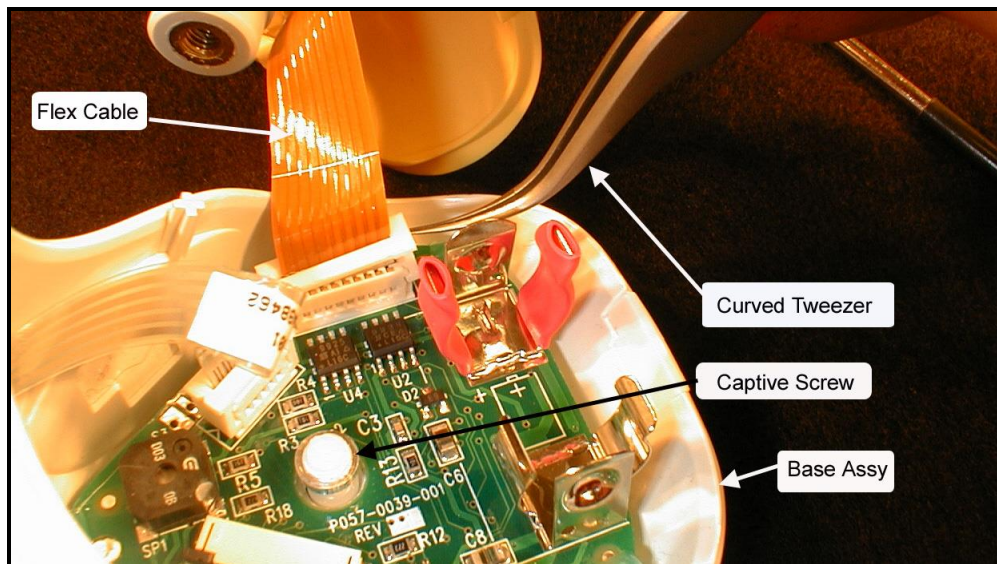

Figure 1: Flex Cable Connection and Captive Screw
2. Remove the battery and disconnect the Motor Flex Cable connector as in **Figure 1** and set the colored body assembly aside.